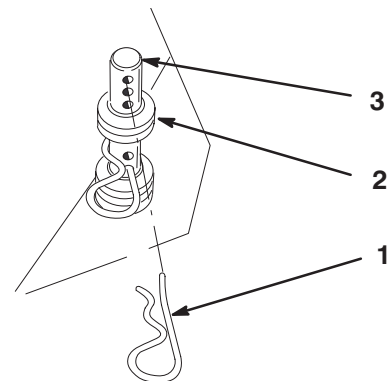

Figure 9
1. On opposite side of muffler, install extra hairpin cotter pins into front and rear height-of-cut pins (Fig. 9).